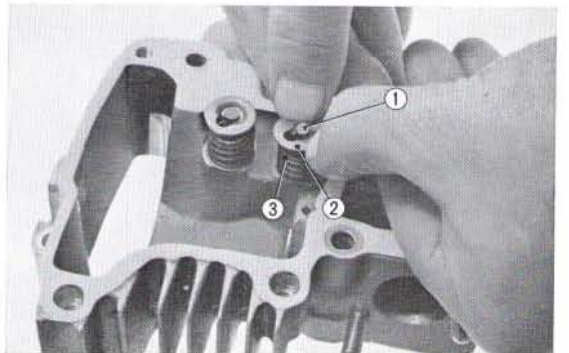

Fig. 2.9 ① Valve ③ Valve spring
1. The valve can be removed by pressing down on the valve retainer and matching the recess in the retainer to the end of the valve. (Fig. 2.9)